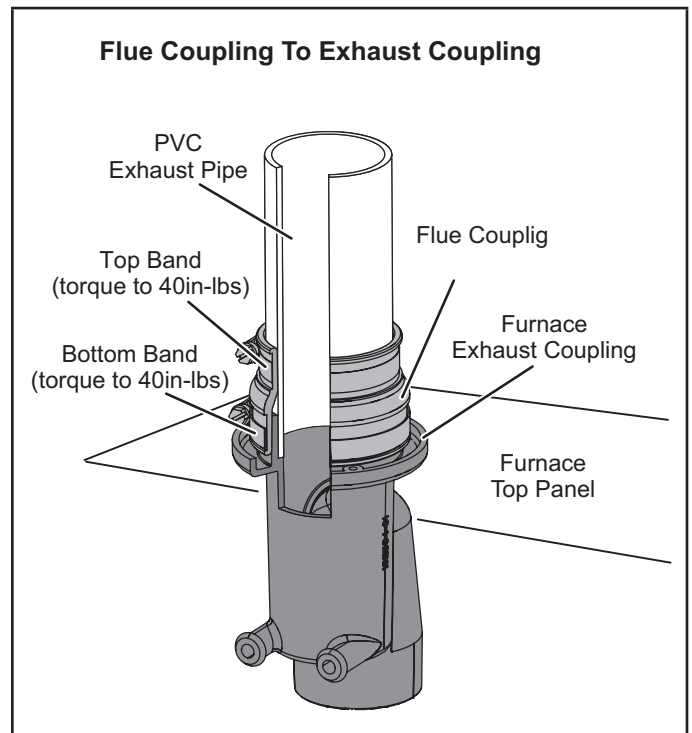

FIGURE 1
- 5 - Tighten both top and bottom bands to 40in-lbs. See figure 1.